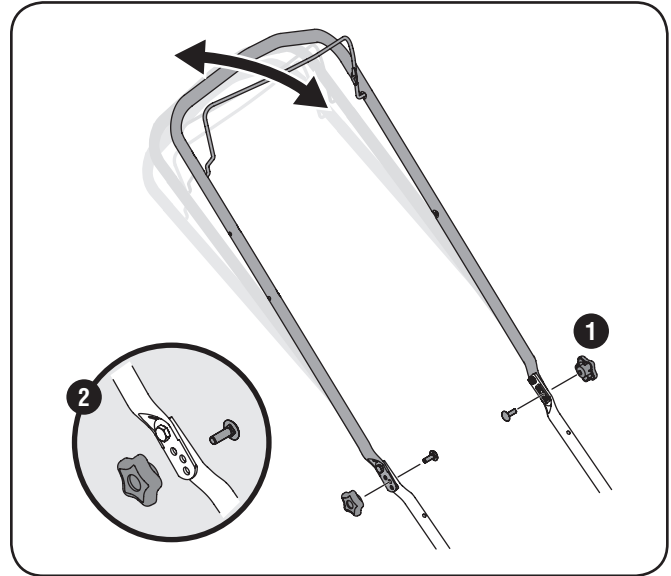

Figure 3-12
1. Remove star knobs and carriage bolts from handle. See Figure 3-12.
2. Position the handle in one of the three positions that is most comfortable. See Figure 3-12 inset.